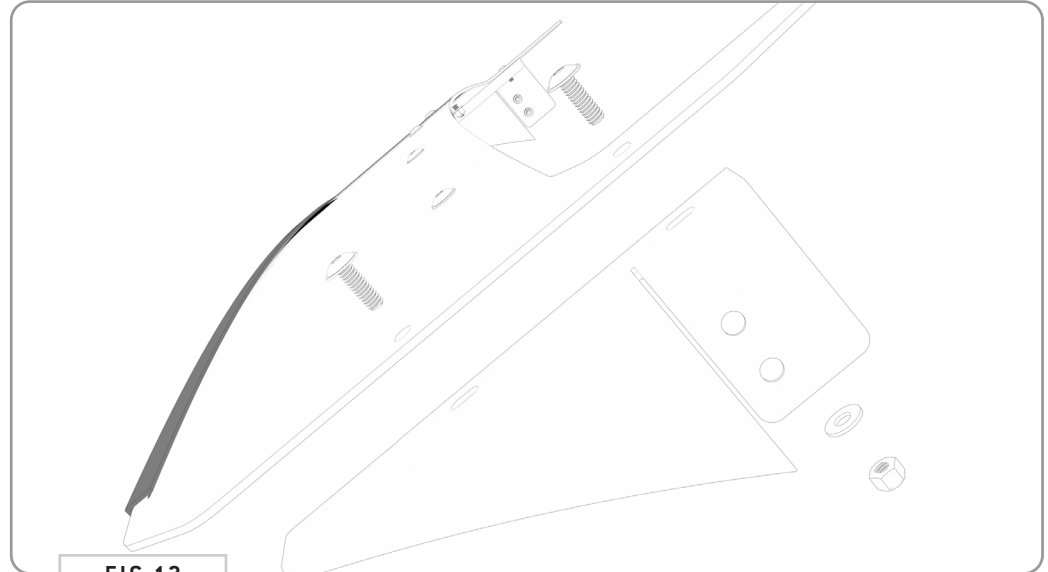

FIG 12
**4.3 Driver and Passenger Side Fairing Brackets:** Attach the **Driver and Passenger Side Fairing Brackets** to the Assembly using **1/4-20 x 0.75 Flanged Button Head Screws, Flat Washers and Nylon Locknuts (FIG 12)**.